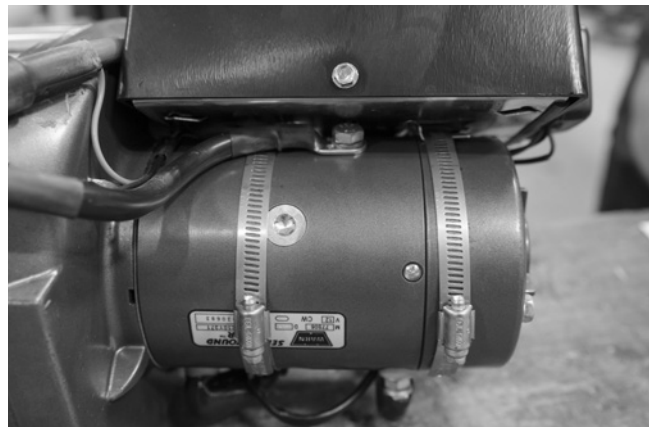

Figure 4
6. Attach the new solenoid bracket as shown (fig. 4). DO NOT put the washers back on.
7. Remove the winch solenoid pack from the winch by removing the two worm gear clamps (fig. 4).